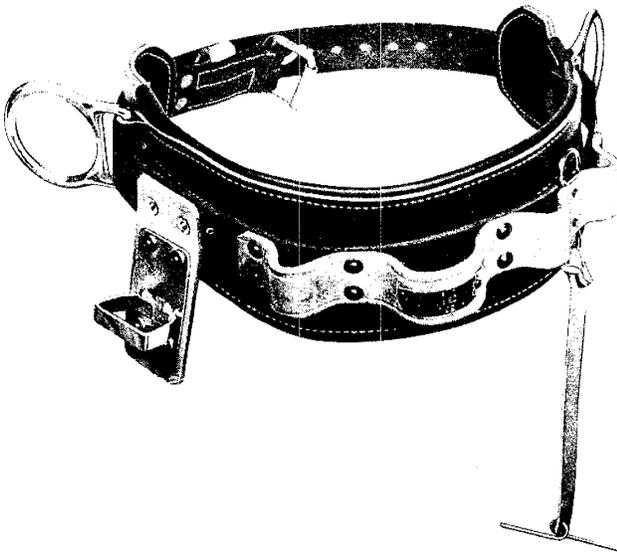

Fig. 2—D Body Belt
2.05 The six-ply strap has adequate strength to permit the wearer to secure himself with a safety strap attached to only one Dee ring. The D Body Belt is available as a "Left" or "Right" belt in sizes 18, 20, 22, 24, 26, and 28. The D Body Belt (Right) is illustrated in Fig. 2.